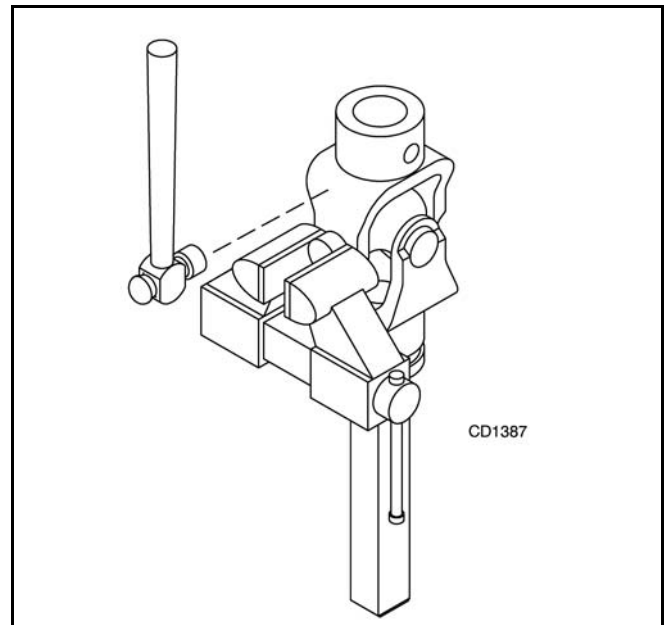

Figure 20.
3. Clamp cup in vise as shown in Figure 20 and tap on yoke to completely remove cup from yoke. Repeat steps two and three for opposite cup.